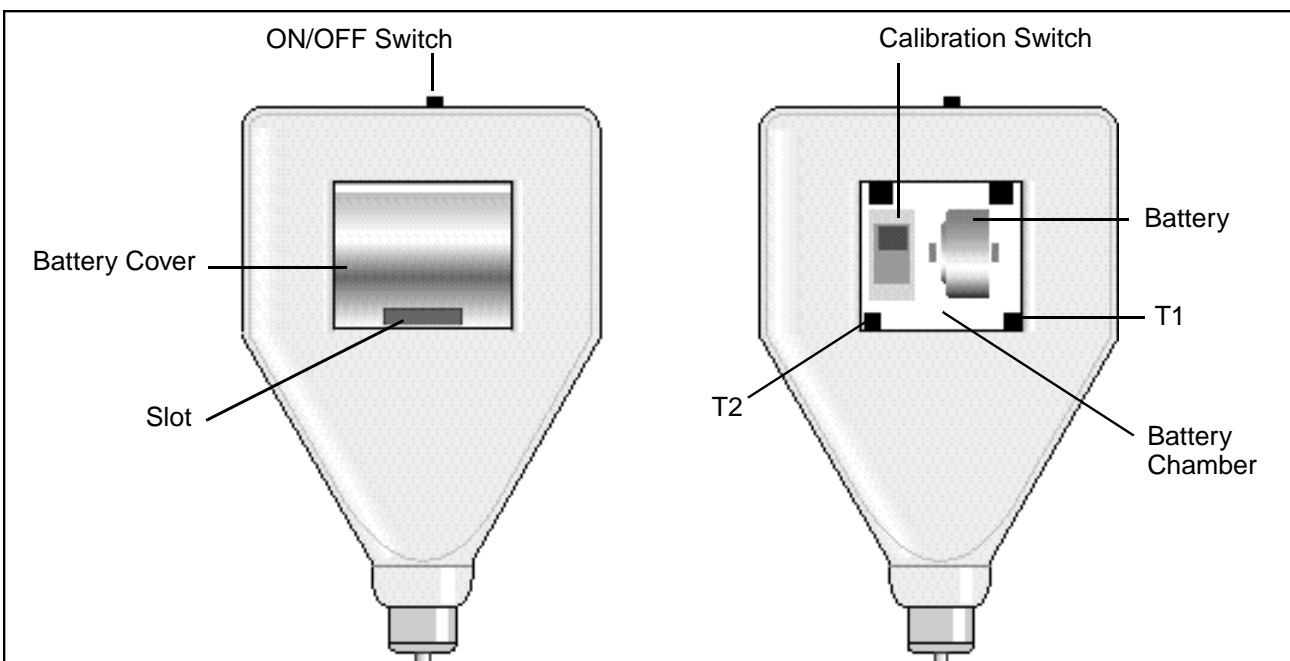

Figure 3: Digital Thermometer, Back View
1. Remove the battery cover from the rear of the digital thermometer by lifting the cover at the slot (see **Figure 3**).
2. Move the calibration switch to the down (ON) position. The display should read -0.4° to 0.4°C .
9. If necessary, adjust T2 (see **Figure 3**), until the display reads the same temperature as indicated on the reference thermometer.
1. Remove the battery cover from the rear of the digital thermometer by lifting the cover at the slot (see Figure 3).
2. Remove the old battery (see Figure 3).